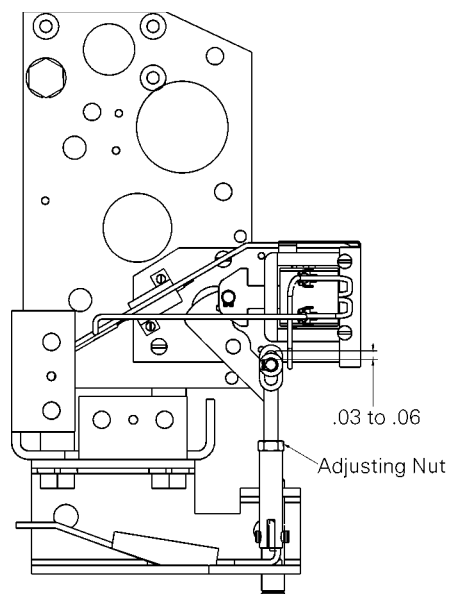

Figure 7-19. Adjusting the closing link connection to the spring discharge interlock rod.
4. Reconnect the closing link on the charging mechanism assembly to the spring discharge interlock rod with the washer and snap ring removed earlier. If necessary, adjust the length of the rod as illustrated in Figure 7-19 (this figure shows a remote close installed on the charging mechanism).